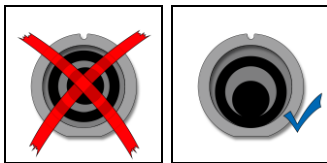

Fig. 10 Positioning ring and disc
- Fit the milling cup with a disc and a ring. Two rings can also be inserted, depending on the milling set. **Position the rings and disc as shown in the illustration opposite.** (Fig. 10 Positioning the ring and disc)